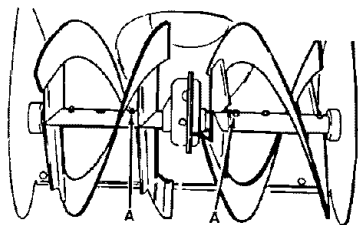

Figure 21
1. **Auger Shaft** – Using a hand grease gun, lubricate the auger shaft zerk fittings (A) every ten (10) operating hours. Each time a shear bolt is replaced, the auger shaft MUST be greased. See Figure 21. See To